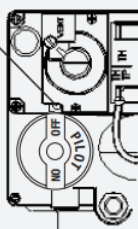
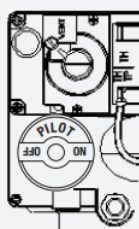

Fig. 2
Fig. 3
8. Turn the knob of the combination gas valve (Fig. 2) from "OFF" to "PILOT," ensure "PILOT" aligns with the dot shown in Fig. 3.